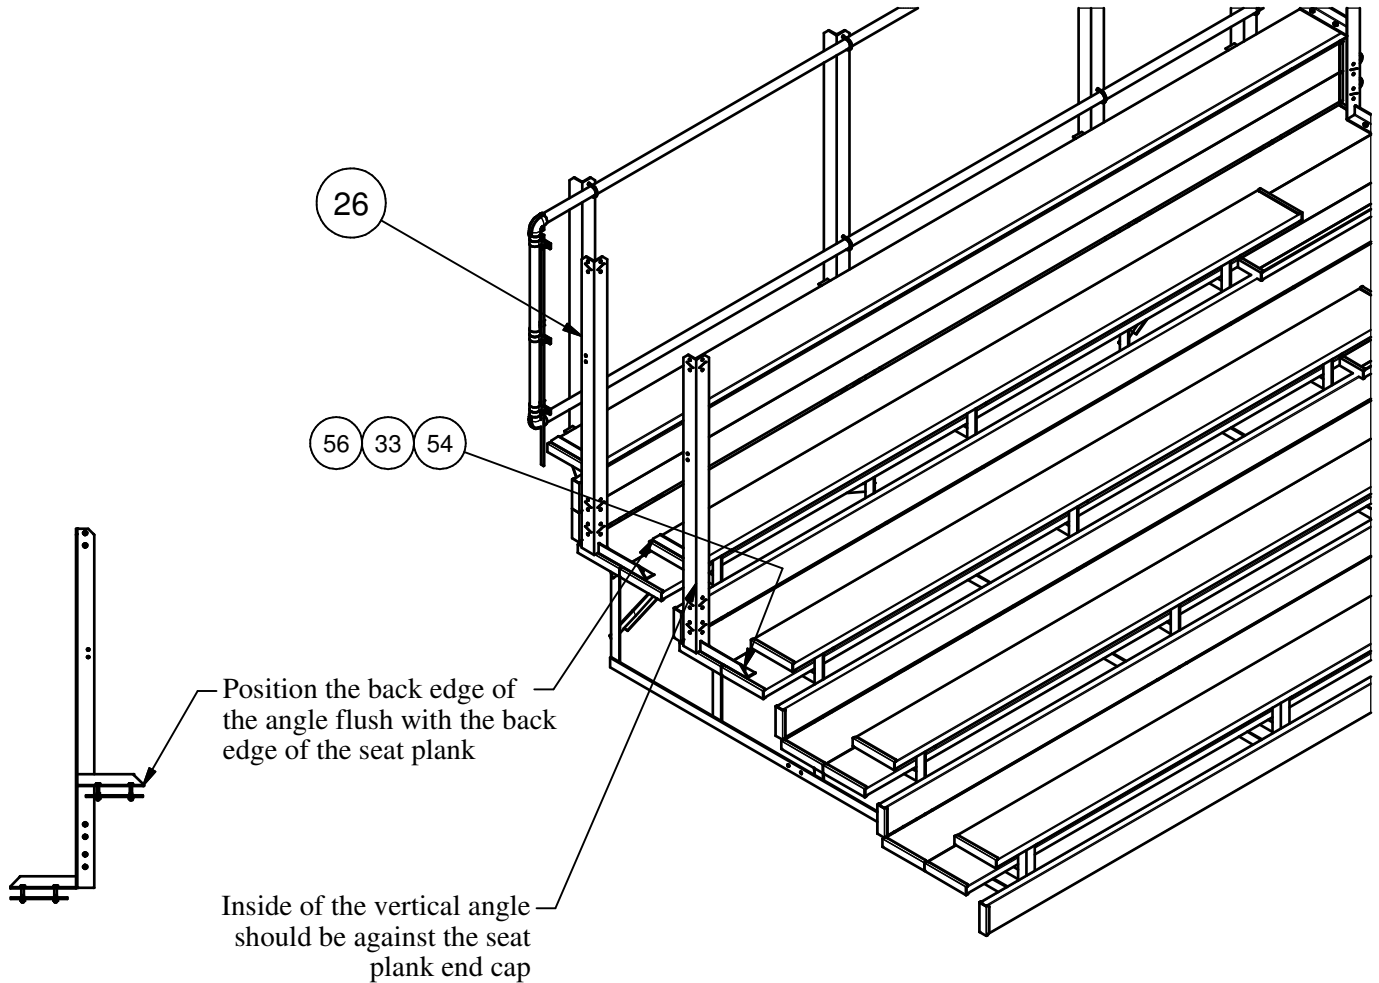

Figure 12
18. Install the RH side rail weldments onto the end of the bleacher. Locate one vertical on the top row, and 4th row. Position the verticals as shown in Figure 12. Using the holes in the angles, drill the four 3/8" holes through the seat plank (2 holes) and the foot planks (2 holes). Attach the verticals using the 3/8" x 2.5" hex bolts and 3/8" whizlock nuts. Make sure the clamp plate is placed on the underside of the plank before installing the nuts. Tighten all bolts and nuts securely.